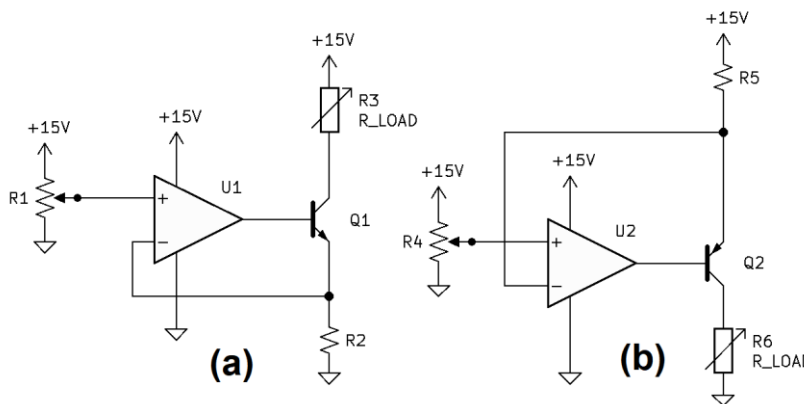
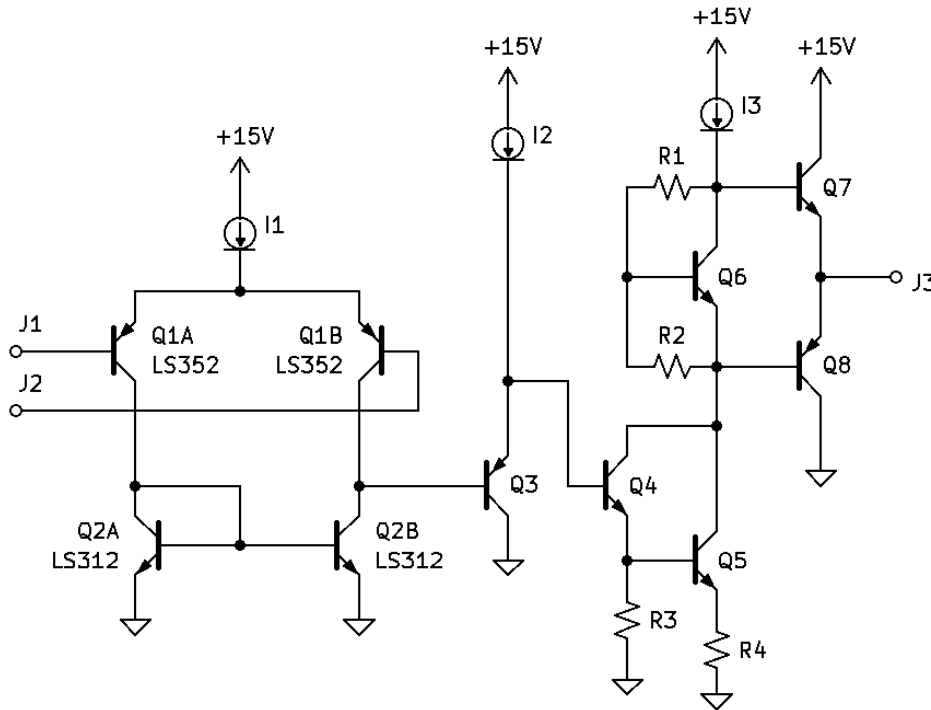
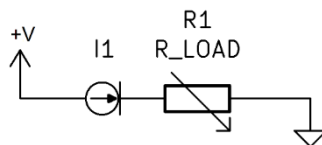

Figure 1
Figure 2
Figure 3
Common circuits to produce a constant current through a load of varying resistance are shown in Figure 1. In Figure 1a, R3 represents the load resistance that has a constant current passing through it from the +15V supply rail. The magnitude of that current is set by resistor R2 and by the control voltage presented to the positive input of the op-amp from R1. Note that the control voltage could be from an external source and could be a varying (AC) control signal. Also note that this configuration is sometimes called a current sink since the current is flowing down into the collector of the NPN transistor.
In some circuit configurations, a constant current device is needed that does not have the complexity of that which is shown in Figure 1. For example, in the simplified schematic of a discrete transistor amplifier shown in Figure 2 (using the **Linear Integrated Systems** matched pair NPN and PNP transistors LS312 and LS352), it would not be practical to add such complex circuitry for the current sources represented by I1, I2, and I3. These current sources are simple two-terminal devices that can be placed in various parts of the circuitry, even in locations that are not directly connected to ground or the power supply rail.
What is a two-terminal constant current device? Like the constant current circuits in Figure 1, it causes a constant current to flow through it regardless of the applied voltage or load resistance (+V and R1, respectively, in Figure 3). As before, the voltage compliance considerations must be observed (and the voltage must not exceed the breakdown voltage of the constant current device).